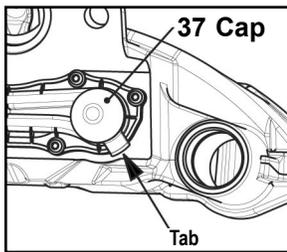

FIGURE 17 - ADJUSTER CAP INSTALLATION. FOR CAPS WITH A TAB, SEE CORRECT TAB POSITION SHOWN
Install a new adjuster cap (37). Note: One of two types of adjuster caps may be included in the kit. For caps with a tab, the tab of the adjuster cap should be positioned as shown by the arrow in Figure 17 for ease of access.
Bendix recommends installing a new adjuster cap (lightly greased using white lithium-based grease) when returning the air brake to service. Ensure that the tab is in the position shown in Figure 17.